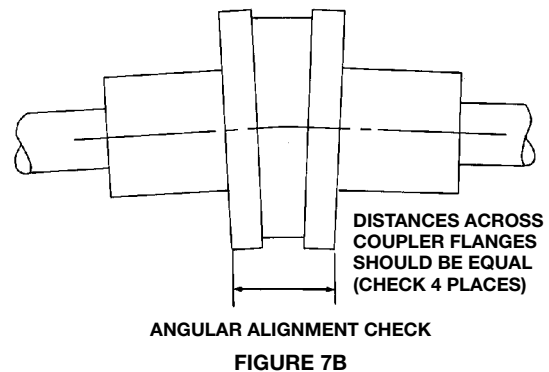

FIGURE 7B
1. Check angular misalignment using a micrometer or caliper. Measure from the outside face of one flange to the outside face of the opposite flange at four points 90° apart. Refer to figure 7B. **DO NOT ROTATE COUPLER.** Misalignment up to $\frac{1}{64}$ " per inch of coupler radius is permissible.